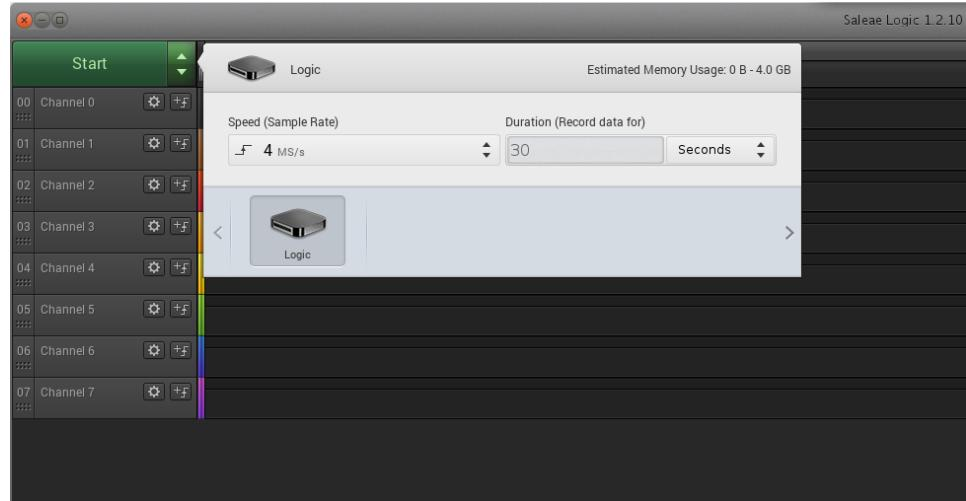

Figure 7.1: Setting the Sample Rate in Saleae Logic
**Connect the pins to analyse** - We have two, so we'll use channel 1 and 2 in our example. Now configure the sampler as in Figure 7.1. This will work for most UART implementations in the wild.